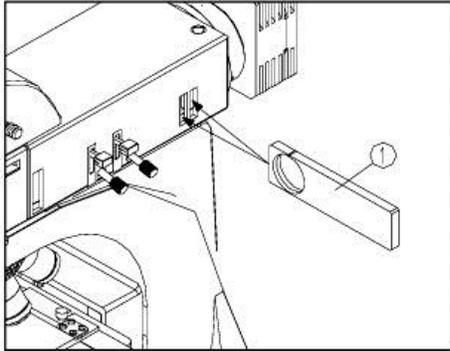

Fig. 25
The color filter can make the background more suitable and increase the image contrast (See Fig. 25).
Insert the color filter ① into the slot as shown in Fig. 25. Your microscope comes with three color filters: green, blue and red.